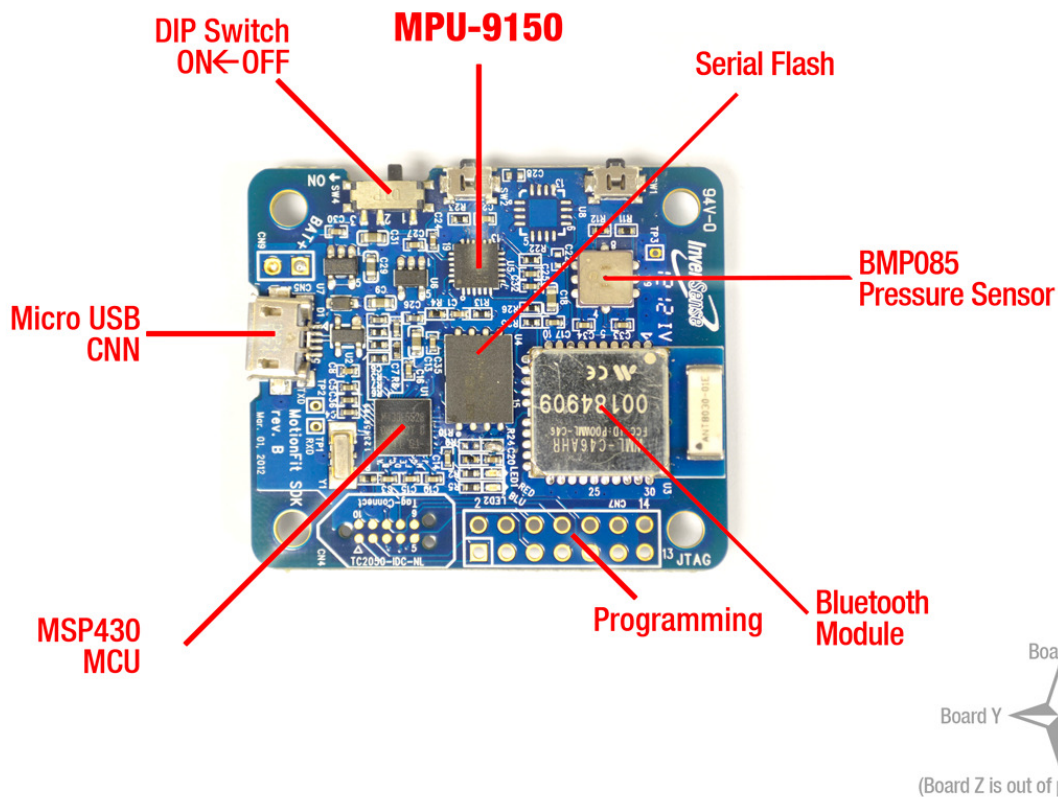
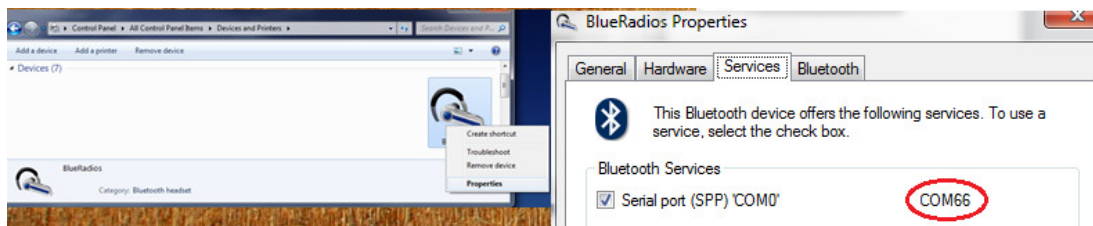

Figure 4.1.0 MPU 9150 MotionFit™ Board
Figure 5.1.1 Right click the added device to go to properties and check the port number (Step 4)
1. The Teapot demo software is included in the package which is a PC based application that rotates the teapot based on the MotionFit™ SDK. The mounting matrix for the device assumes the direction as in the figure 4.1.0. The board connects to the PC based on the Bluetooth link. Teapot demo software is provided with source as well.
Charge the unit via USB connector for about 2 hours. Turn on the SDK using the DIP switch on the board. Check the figure 4.1.0 for the ON and OFF positions of the switch.
1. Configure the Bluetooth interface on the PC. Go to “*control Panel\All Control Panel Items\Devices and Printers*” then choose “*Add a device*” and choose blue “BlueRadios” device. (figure 4.1.0)
4. Go to the Control Panel\All Control Panel Items\Devices and Printers\ to properties and check the port number of the Bluetooth serial port (figure 5.1.1). In this example the port number is 66, but we will call it just **COM#** from now on. After successfully pairing, power cycle the MotionFit™ SDK once by flipping the DIP switch OFF and ON as in figure 4.1.0.
- Where <comport> is the COM# as described in figure 5.1.1